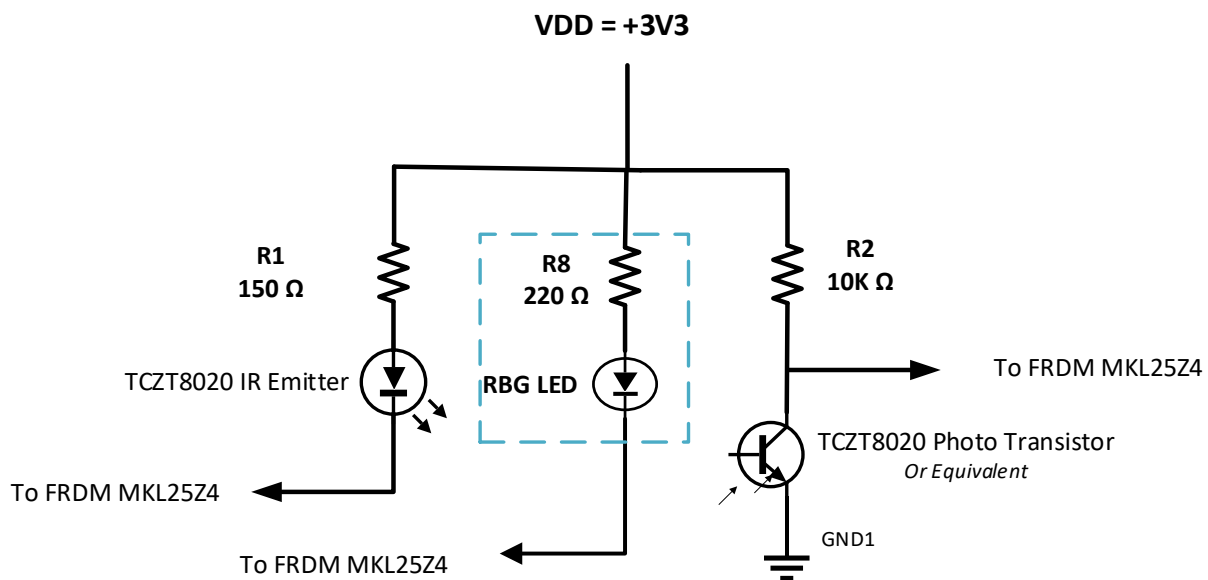

Figure 2.
2. For this problem refer to listing 6.1 1 and 6.12 in Chapter 6 of the Textbook *Embedded Systems Fundamentals* as guide. Utilize the circuit in Figure 2, and connect the IR Emitter, Optocoupler and RGB LED to the FRDM Development Board's input and output and utilize the Boards associated peripherals to detect the presence of objects. Have the appropriate LEDs to function as described in the section entitled "Infrared Proximity Sensor" found of page 174 of the textbook. You may also utilize the Development Boards internal RGB if you so choose.